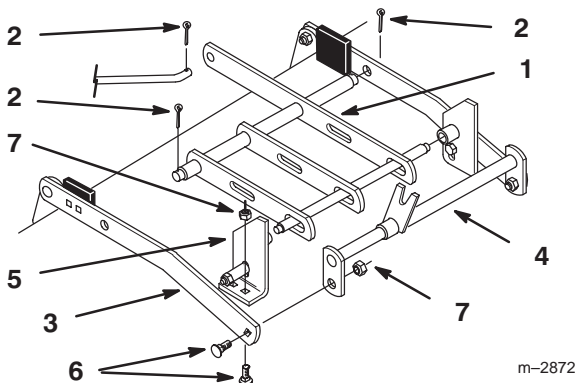

Figure 4
1. Remove the cotter pins securing the leveling assembly to the mower (Fig. 4).
2. Remove the hardware securing the front mounting bar to the right hand leveling bar (Fig. 4).
3. Remove the hardware securing the right bracket to the mower and remove the leveling assembly (Fig. 4).
4. Replace the leveling assembly with the new one containing three bars (Fig. 4).
5. Secure the right hand bracket to the mower with previously removed hardware (Fig. 4).
6. Attach the front mounting bar to the right hand leveling bar with previously removed hardware (Fig. 4).
7. Install the cotter pins in the leveling assembly (Fig. 4).